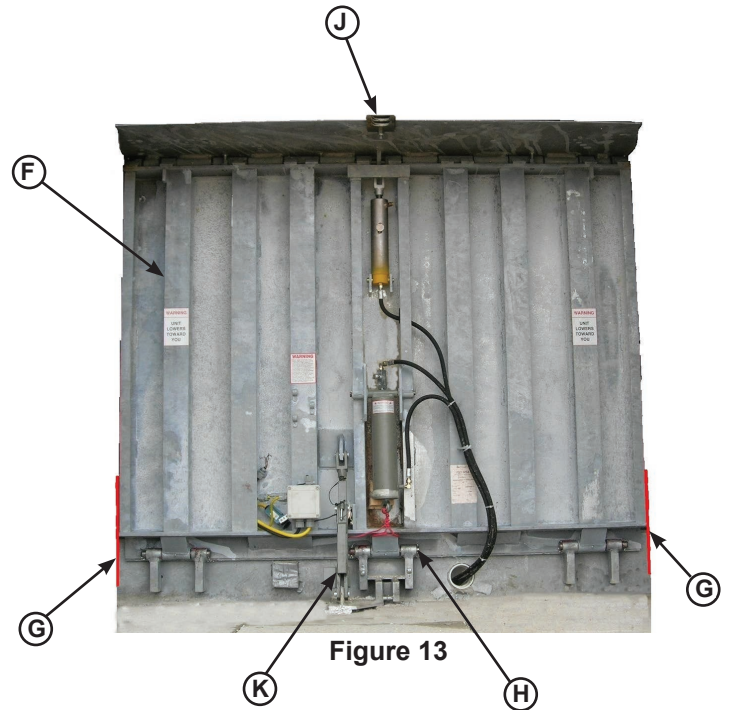

Figure 13
- Insert the hinge pins. Work across the dock leveler, installing one side, then the center, and finally the other side. See Figure 13.